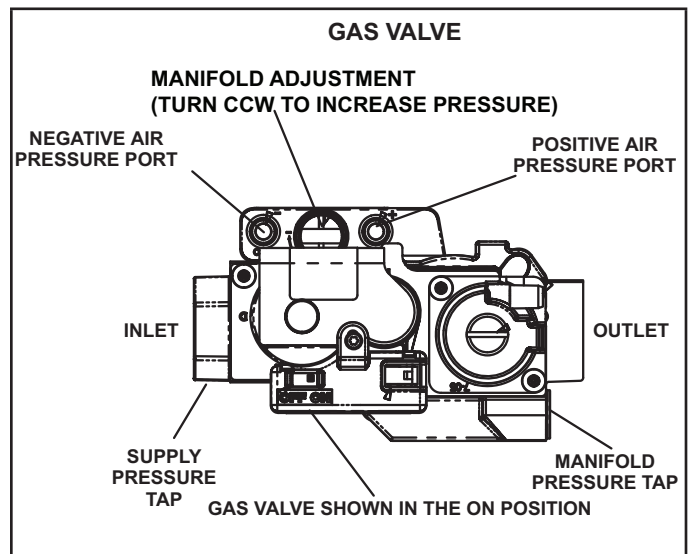

FIGURE 6
- 6 - Move the switch on the gas valve to OFF. Do not force the switch. See figure 6.
- 7 - Wait five (5) minutes for any gas to clear out. If you then smell gas, **STOP!** Immediately call your gas supplier from a neighbor's phone. Follow the gas supplier's instructions. If you do not smell gas, go to the next step.